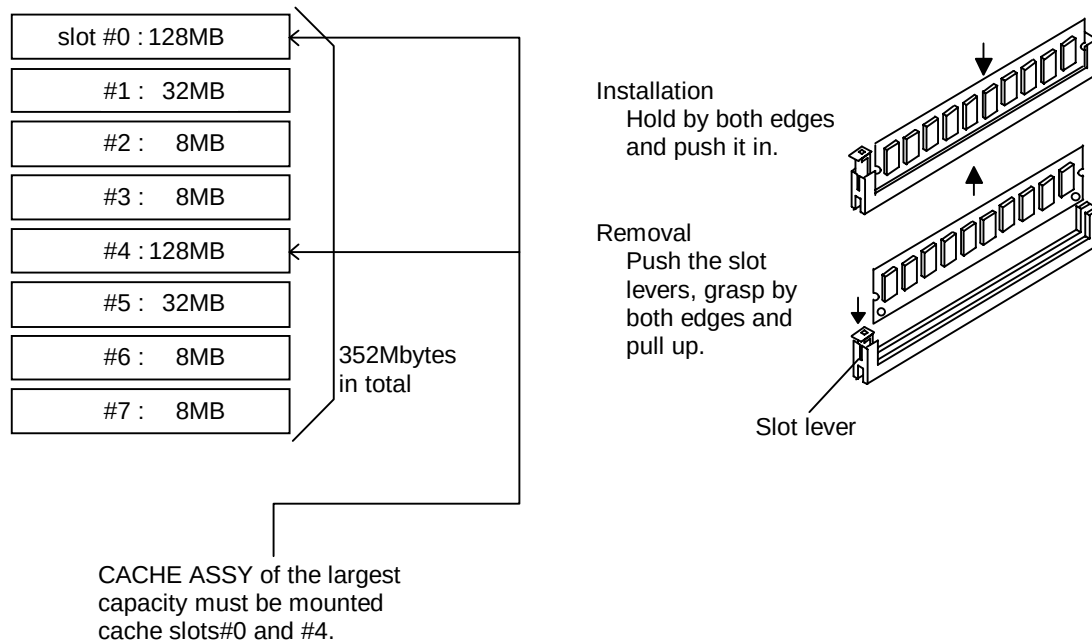

Figure 3.2.13 Installing CACHE ASSY
(6) Installing CACHE ASSY (See Figure 3.2.13.)
- ③ Install the CACHE ASSY. (See Figure 3.2.13.)